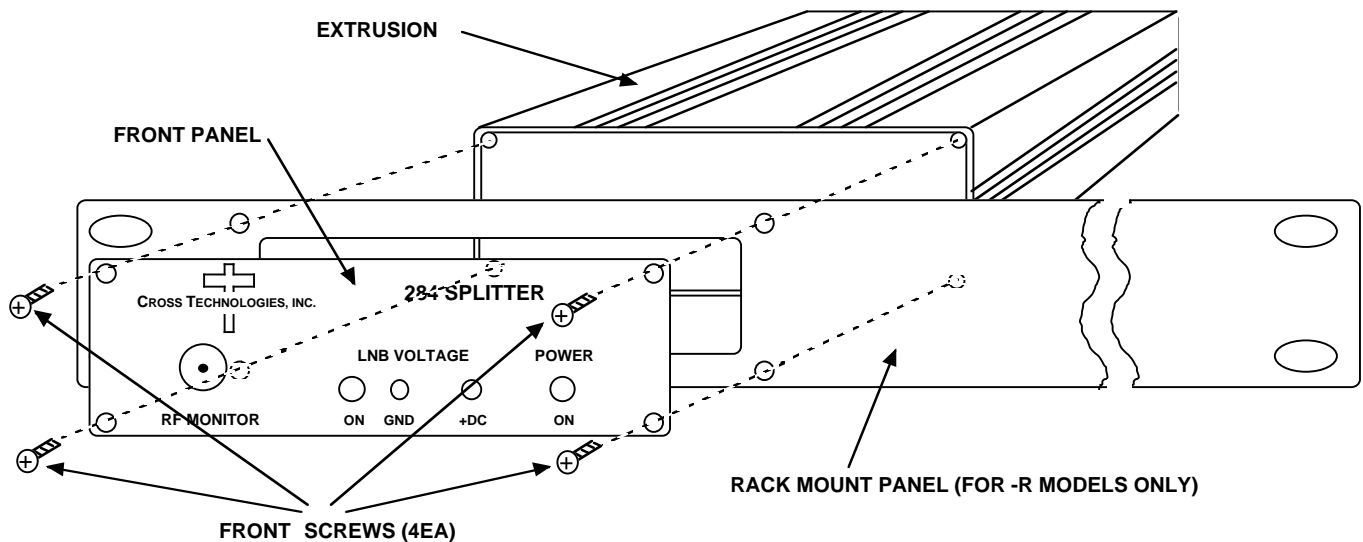

FIGURE 2.5 Rack Mounting The 284-19
2.5 Rack Mounting - The 284-19 is packaged in an aluminum extrusion. The **-R option** is mounted on a 3/4" x 19" rack panel that can be mounted to a rack using the four holes at the ends. To mount a 284-19 unit to a rack panel, remove the four screws attaching the front panel to the extrusion, and then (using the same screws) reattach the front panel to the front of the rack panel with the extrusion (containing the PCB) on the other side of the rack panel (see Figure 2.5).
- A. Rack-Mounting** - To mount this equipment in a rack, please refer to the installation instructions located in the user manual furnished by the manufacturer of your equipment rack. (See figure 2.5)